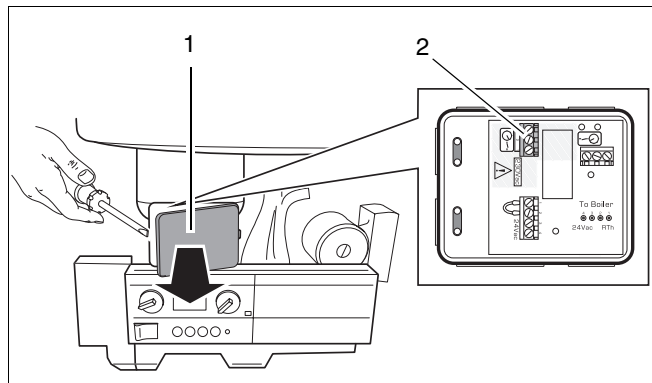

fig. 21 Connection box - 230 Volt connection
- a room-temperature control device at 230V connected to the room control converter (fig. 21, item 2).
- Remove the cover of the room control converter (fig. 21, item 1).
- Lead the 230V control device wire through the cable lead (see fig. 21).
- Fix the 230V wire to position 1 and 2 of the 230V connection (fig. 21, item 2).